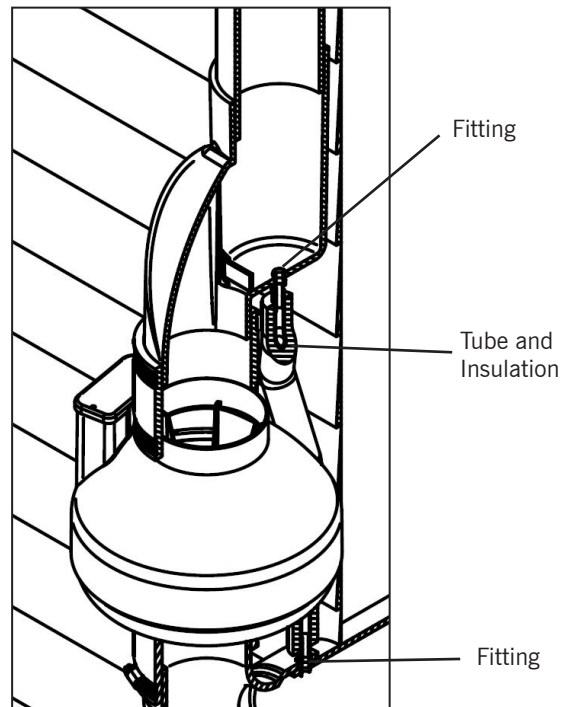
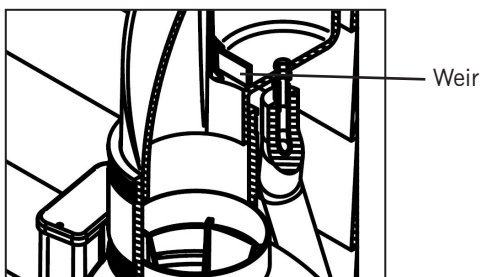
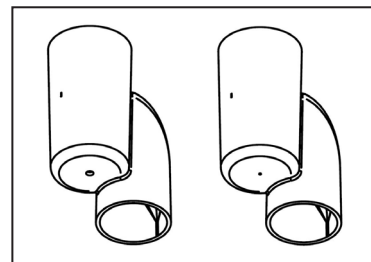

Figure 2:
Figure 1:
Figure 3:
1. If you will be installing the optional transition fitting, install it now; insert the weir (Figure 1) into the transition fitting as shown in Figure 2. Apply some cement to the bottom of the weir prior to installing.
2. Referring to Figure 3 below right, drill and tap a 1/4"-18 NPT hole using drill tap (P/N 28138, sold separately) into the 4" Transition Fitting (P/N 13245, sold separately). Install the transition fitting above the fan (see Figure 2).
4. Perform the same drill / tap / fitting procedure on the inlet pipe below the fan as shown (Figure 2). The fitting must be less than 36 inches from the fitting above the fan.